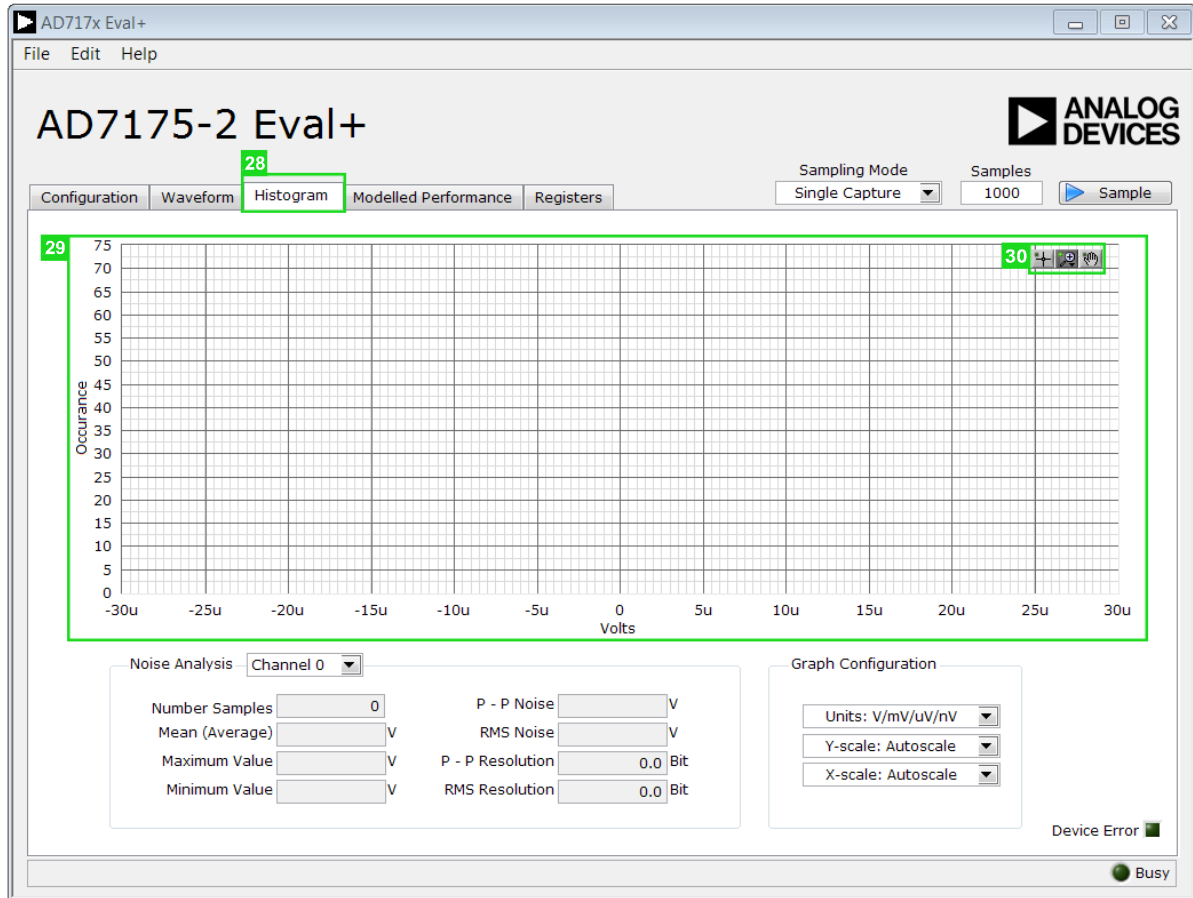

Figure 19. Histogram Tab of the AD7175-2 Eval+ Software
Figure 19 shows the **Histogram** tab of the AD717x Eval+ Software.
The data histogram graph (29) shows the number of times each sample of the ADC output occurs. The control toolbar (30) in the histogram graph allows the user to zoom in on the data (see Figure 19). Click the x-axis and y-axis to change the scales on the graph (see Figure 19).